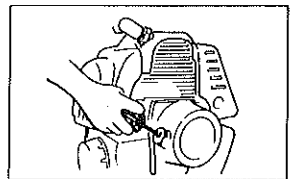

Fig. 5
5. Pull the recoil starter vigorously. (Fig. 5)